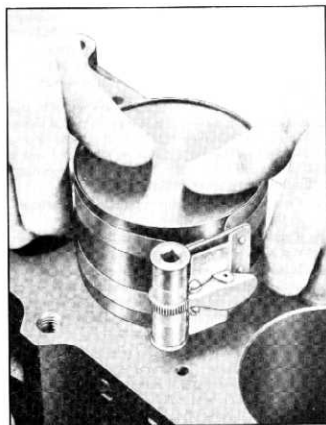

Fig. 69—Installing Piston in Cylinder Bore
2. Lubricate pistons and cylinder bores, remove bearing caps and install piston and rod assemblies using piston inserter KMO-357 (fig. 69).